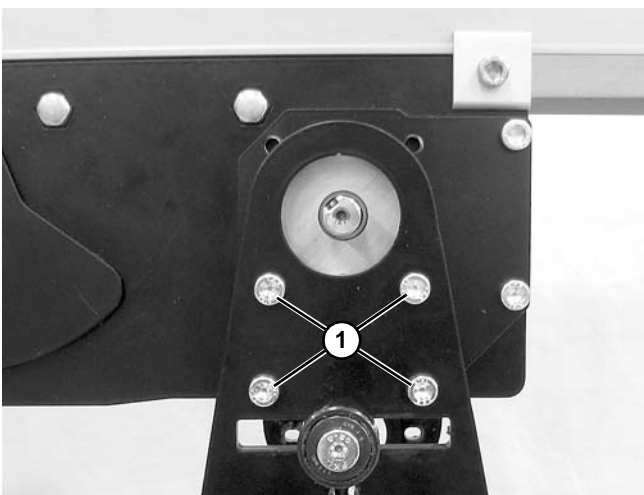

Figure 40
3. Remove four mounting screws (Figure 40, item 1) and remove gearmotor.